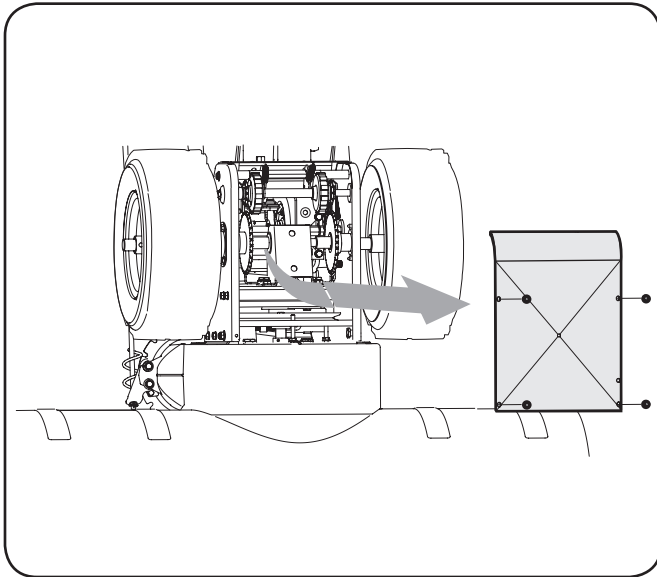

Figure 6-6
1. With the snow thrower tipped forward (be certain to drain gasoline or run the tank dry if the snow thrower has already been operated), remove the frame cover underneath the snow thrower by removing the self-tapping screws. See Figure 6-6.